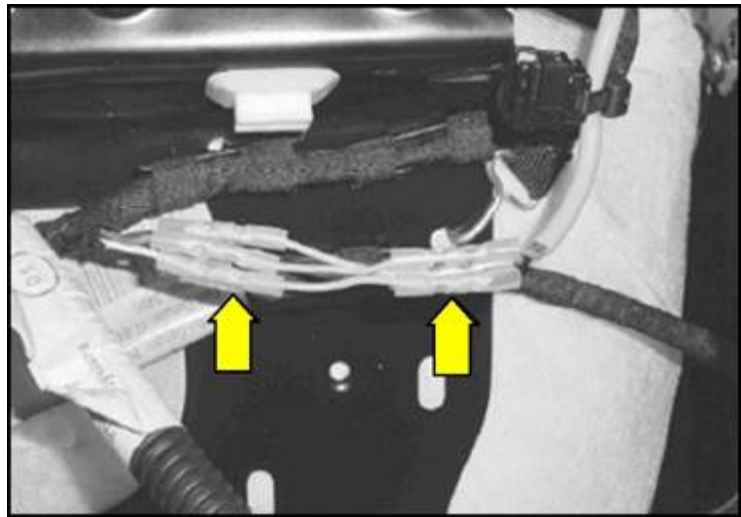

Figure 4. Igniter wire 2.
- Repeat steps 4, 5, and 6 for igniter wire 2 (Figure 4).